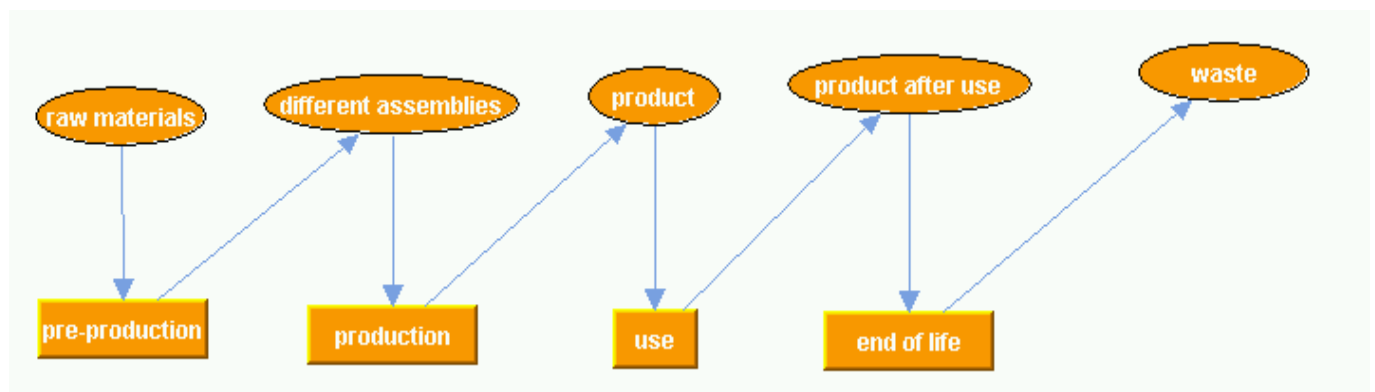

Figure 1
*Pre-production* takes raw materials from the outside world and produces *different assemblies*. These in turn are input to the *Production*, which produces the *product*. *Product* is then used in scope of the *Use* task. At the end of the *Use* task, the product still exists, but it has other properties than the new product, so we model it as a separate resource, *product after use*. This *product after use* has to be disposed of. This happens in scope of the *end of life* task. Visually, this process chain (system) looks like shown in figure 1.
A balance sheet of a task is a list of all input and output resources of that task. Consider the process chain in figure 1. There, the resource *raw materials* is an input to the task *pre-production* and the resource *different assemblies* is its output resource.